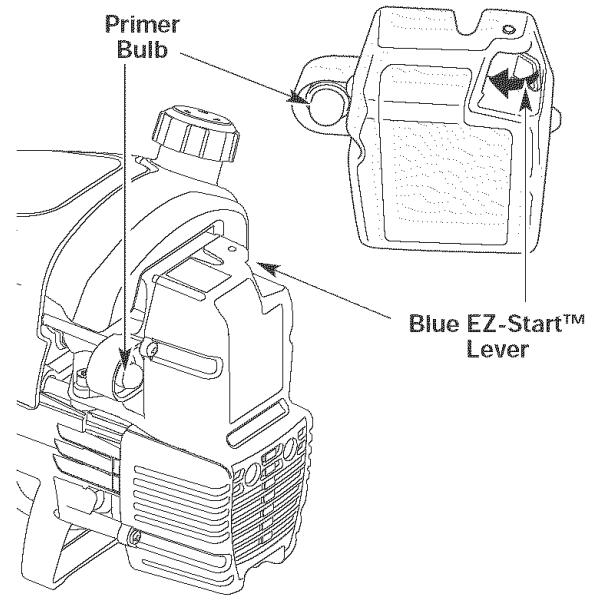

Fig. 7
**NOTE:** There is no need to turn the unit on. The On/Off Stop Control is in the ON (I) position at all times.
2. Fully press and release the primer bulb 10 times, slowly. Some amount of **fuel should be visible in the primer bulb** and fuel lines (Fig. 7). If you can't see fuel in the bulb, press and release the bulb as many times as it takes before you can see fuel in it.
3. **Push the Blue EZ-Start™ Lever towards the primer bulb** until it clicks and locks into place (Fig. 7).